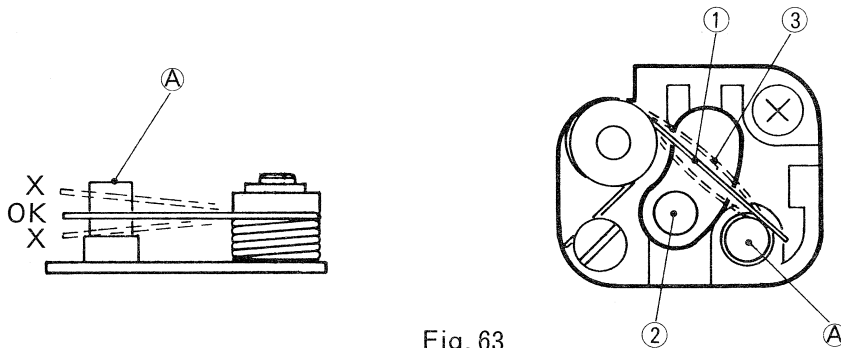

Fig. 63
2. To adjust the shutter speed, bend contact (1) for adjustment of the clearance between trigger switch contact (1) (Fig. 63) and operation pin. If the clearance is increased for (2), the shutter speed is reduced. (3)
Note: When bending this contact, pin (A) (Fig. 63) and contact should hit each other in parallel. Check that supply voltage is 6 V.